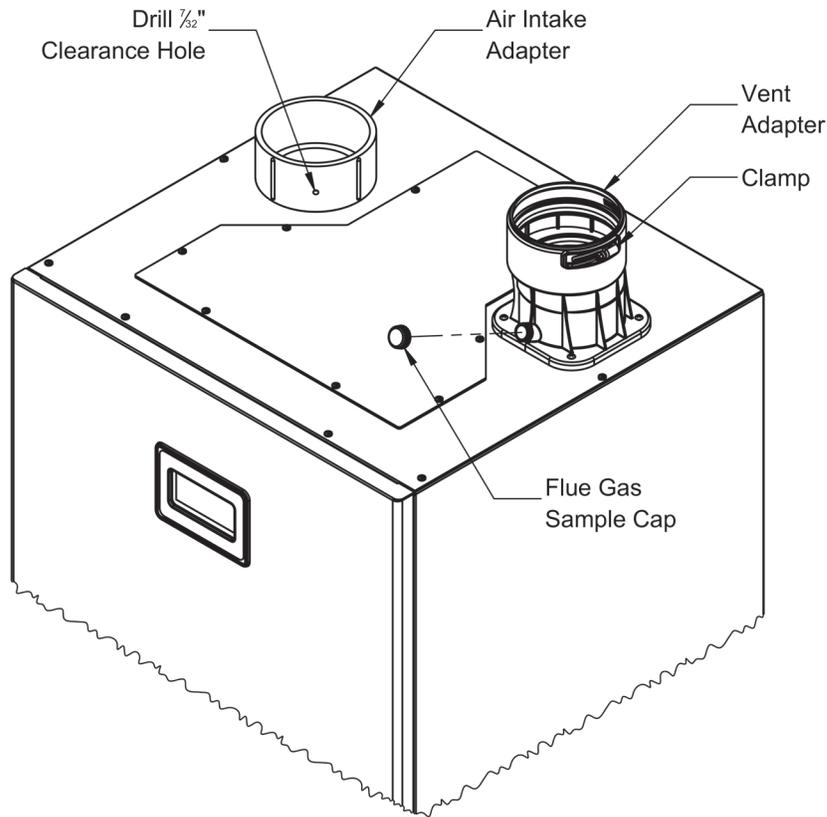

Figure 7.26: Vent Connections and Flue Gas Sample Cap Location
Never leave the boiler in operation without the gas sample cap in place (Figure 7.26).
- a. The vent adaptor has three different inside diameters. The middle inside diameter accepts 4" nominal PolyPro (Figure 7.26). Lubricate the gaskets in the vent adaptor with soapy water and insert the first piece of 4" PolyPro into the adaptor until it bottoms out. Tighten band clamp on vent adapter to secure vent pipe.